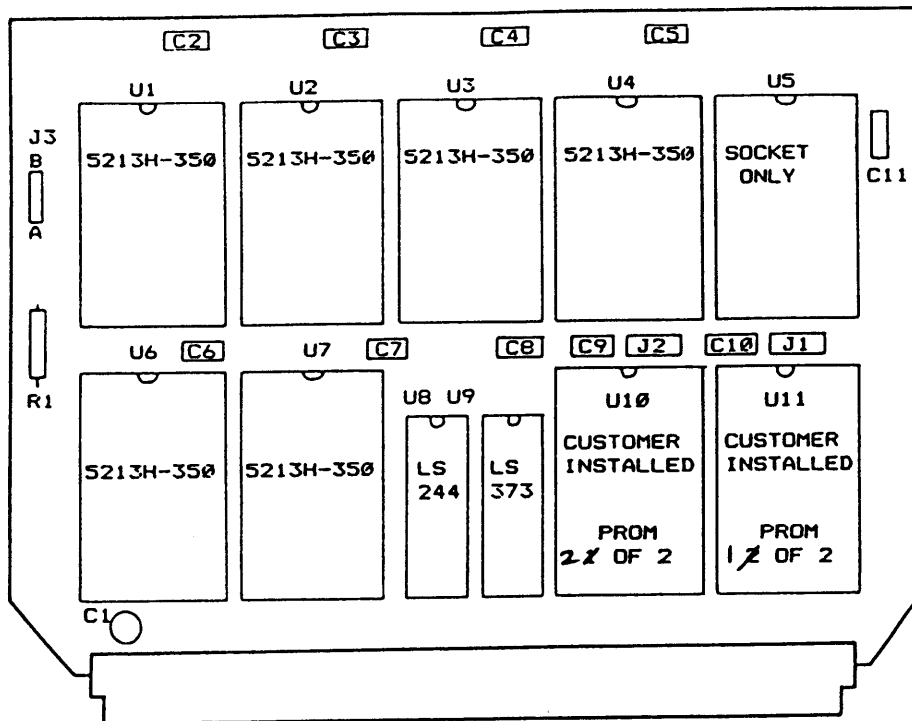

FIGURE 1
4. Referring to figure 1, locate socket U11, positioned at the bottom right corner of the p.c. board. Install PROM 1 of 2 in this socket with pin 1 at the top left corner of that socket. Position jumper J1 to the left position.